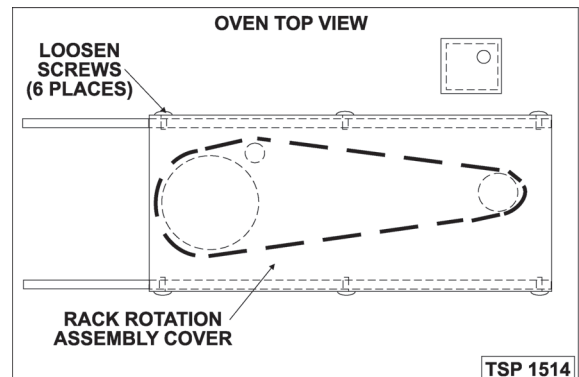

Fig. 5
- A. Gain access to the top of oven and loosen the screws securing rack rotation assembly cover (Fig. 5).